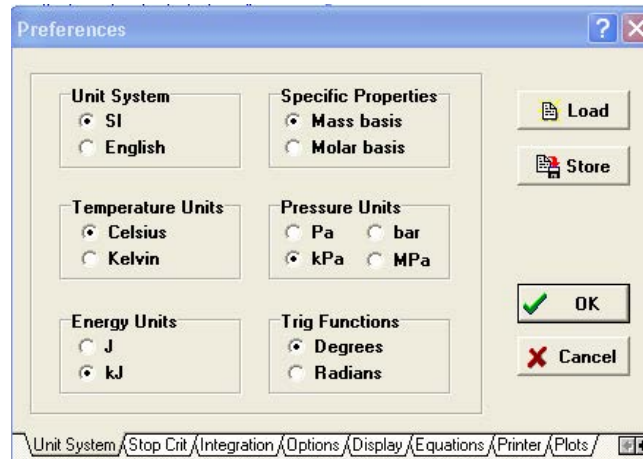

Fig. 1. EES screen shot-- setting Unit system
2. Choose the Unit system as SI (Ref: Fig.1), T (deg.C), P (kPa), and Energy (kJ)